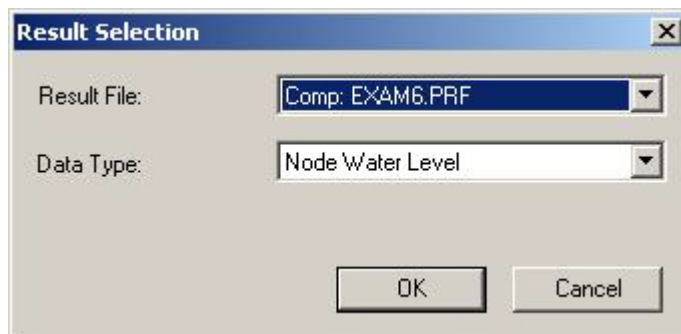

Figure 23.51 The result selection dialog where the comparison between resultfiles is chosen
- After loading in the second result file, go to Model Results|Add Result|Layer to add the comparison to the horizontal plan or go to Model Results|Time Series to plot the compare time series. On the result selection dialog that comes up choose the result file type that starts with 'Comp' (for comparison) and has the first result file name afterwards, see an example in Figure 23.51